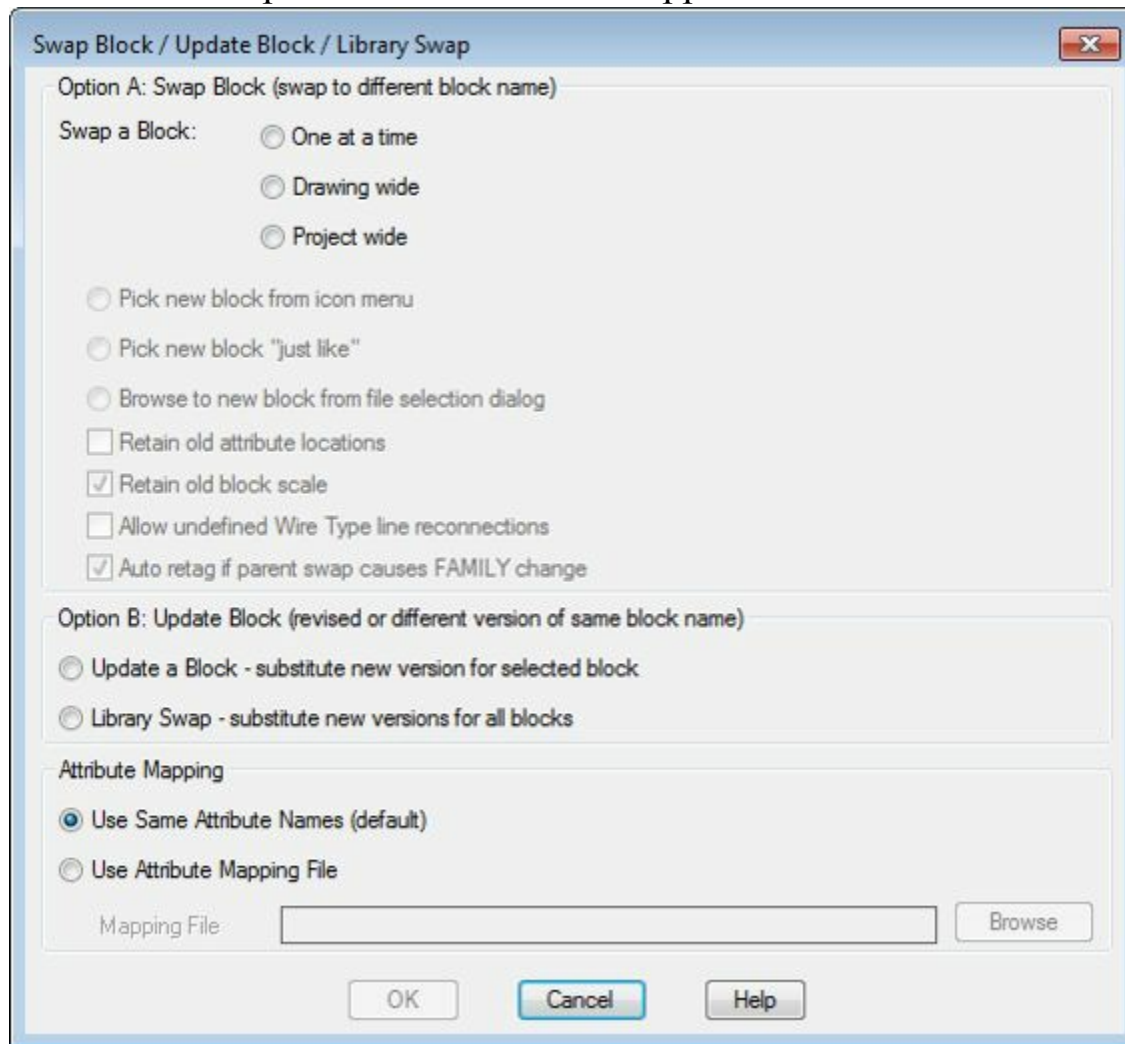

Figure-38. Swap Block or Update Block or Library Swap dialog box
- Click on the **Swap/Update Block** tool from the **Edit Components** panel. The **Swap Block/Update Block/Library Swap** dialog box will be displayed; refer to Figure-38.